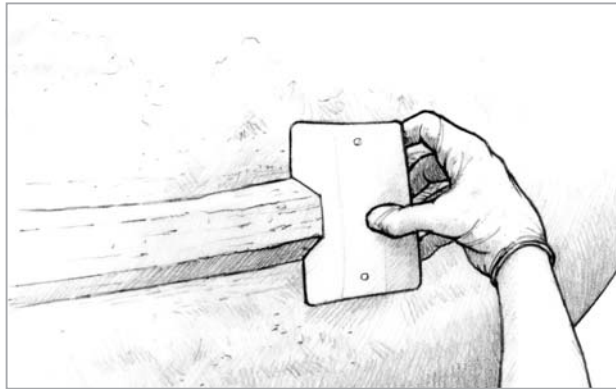

Figure 10 Use a spreader notched to the shape of the ridge to shape the mixture.
4. Apply a 1"–2" wide ridge of fairing compound to the surface at each guide location. Use the same mixture of epoxy/407 or 410 filler, thickened to a stiff, peanut butter consistency, that will be used to fill between the guides. Trowel on the fairing mixture with a plastic spreader, and then use a spreader notched to the shape of the ridge to shape the mixture (*Figure 10*). Cut the notch deep enough to equal the height of the ridge at the lowest area of the surface. Tilt the spreader as necessary to adjust the height.